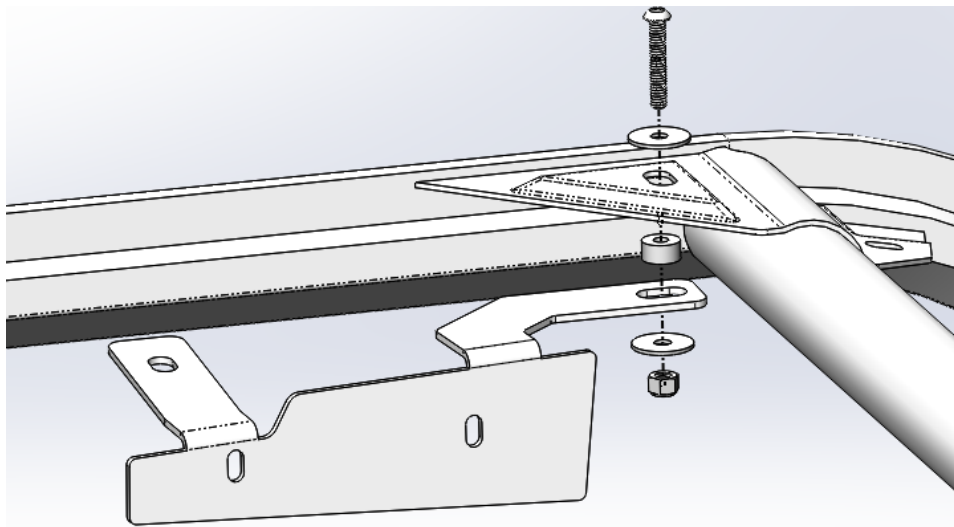
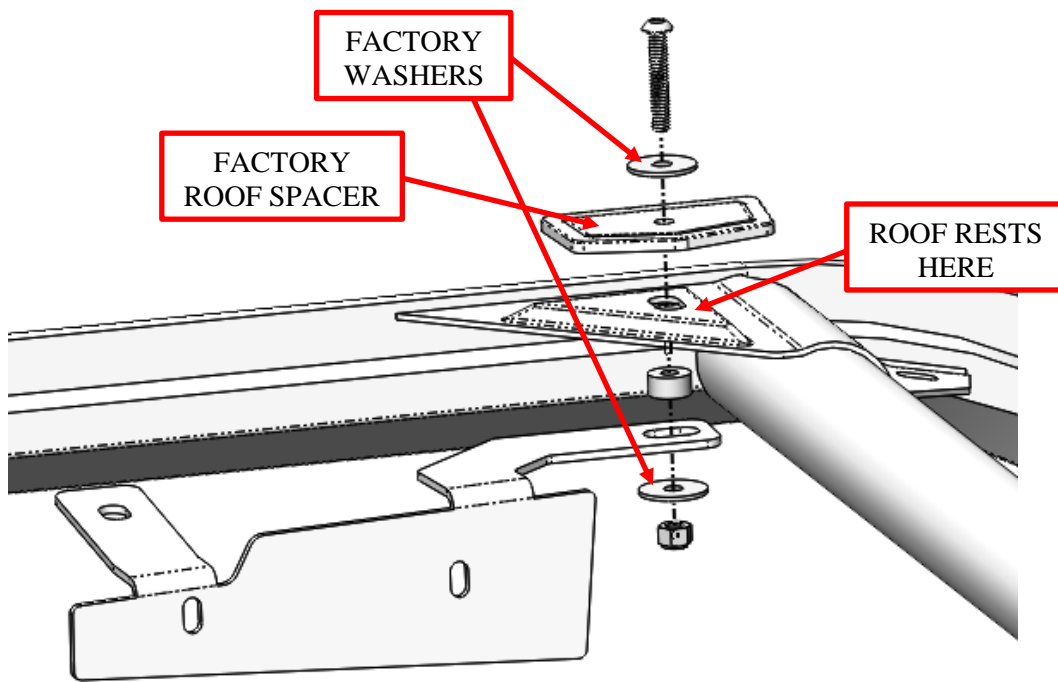
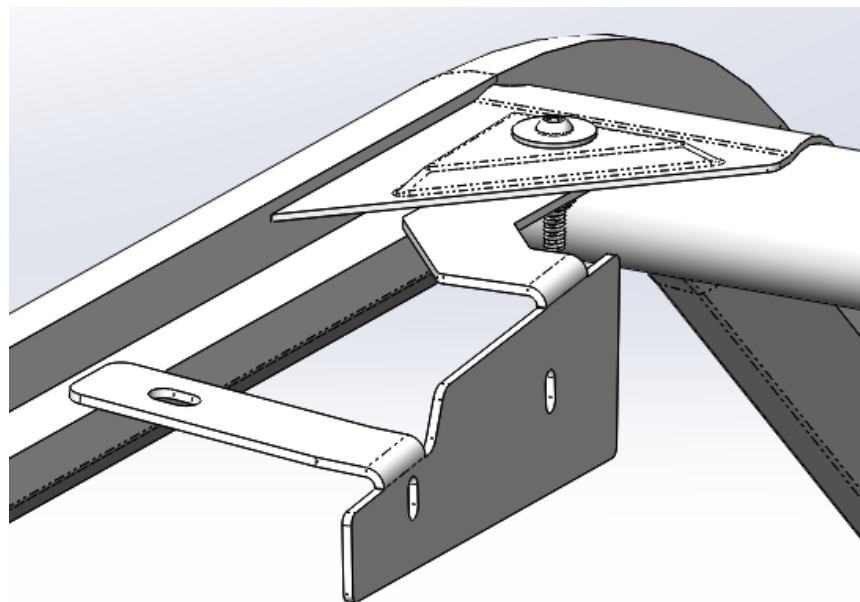

Figure 3: Audio Mini bracket mounting location. Driver side shown. (Passenger side similar)
Figure 4: *Audio Mini* bracket mounting location with factory roof components. Driver side shown. (Passenger side similar)
Figure 5: *Audio Mini* bracket loosely mounted on frame.
2. Place the driver's side bracket on the frame as shown below. Use the supplied 1/4"-20 button-head bolt, washers, spacer, and nut to mount the bracket. Loosely install the nut to still allow for adjustment of the *Audio Mini* placement. Verify correct orientation of the mounting bracket. See Figure 3, Figure 4, and Figure 5. **Note: Driver side shown. (Passenger side similar). Note: See Figure 4 if you have a factory roof. You will reuse the factory black washers and roof spacer.**